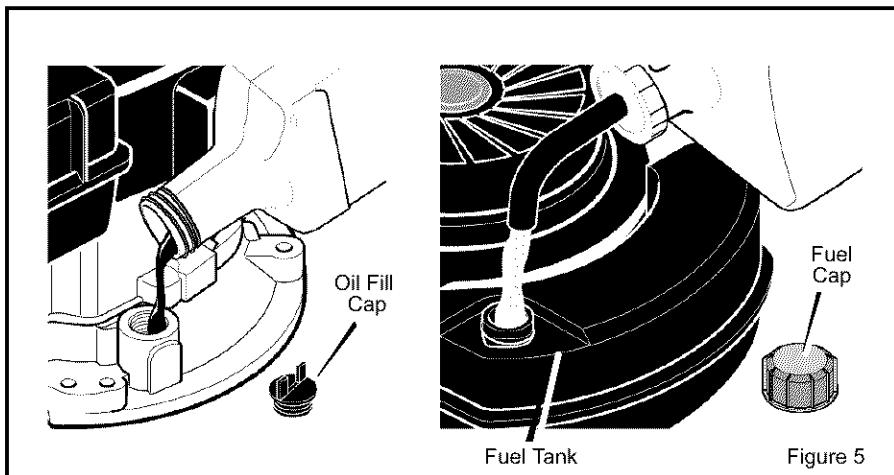

Figure 5
2. Remove the oil fill cap (Figure 5).